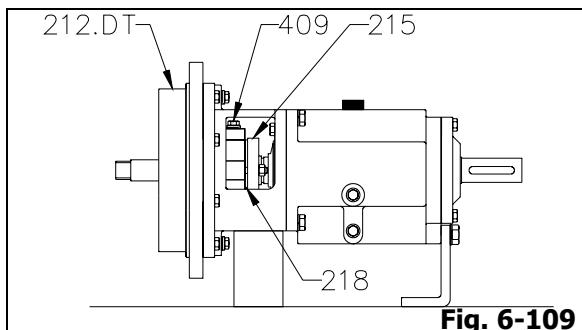

Fig. 6-109
20. Align flushing holes on stuffing box cover (212.DT) and seal cover extension (218). Install two (2) seal cover nuts after seal cover (215) and tighten nuts evenly.
21. Install all connection plugs (409) or/and piping adaptors into stuffing box cover (212.DT) (Fig. 6-109).